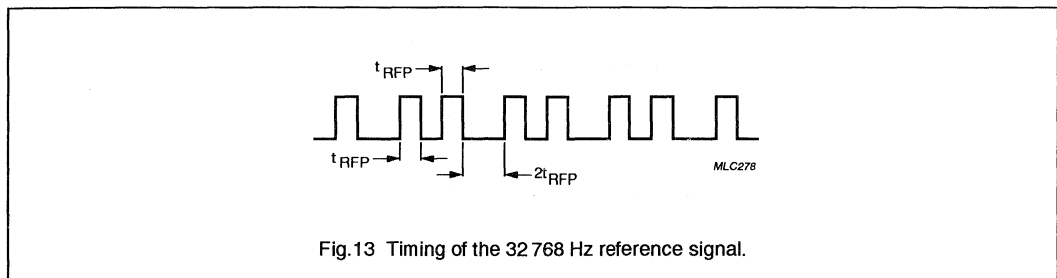

Fig.13 Timing of the 32 768 Hz reference signal.
- 32768 Hz reference signal: 32 pulses per 75 clock cycles, alternately separated by 1 or 2 pulse periods (pulse duration:  $t_{RFP}$ ). The timing is shown in Fig.13.